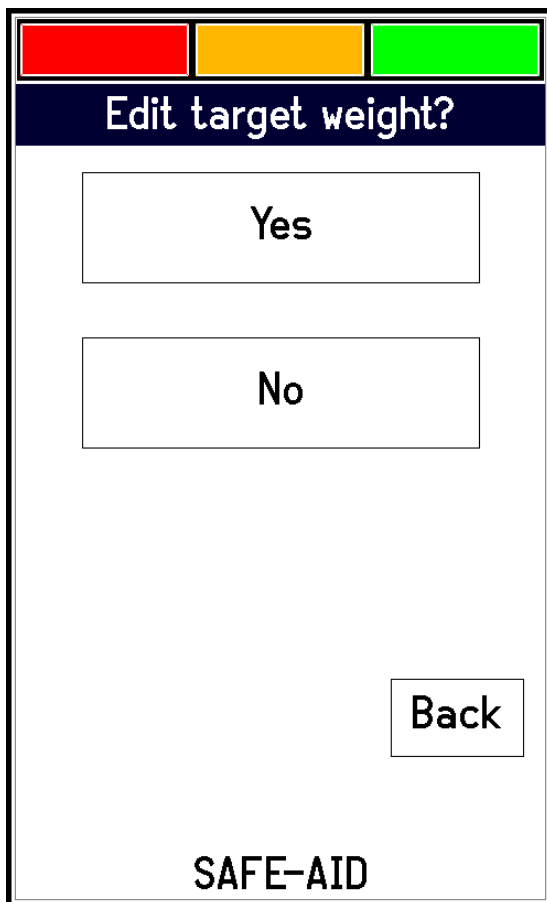

FIGURE 3
6. BUCKET WEIGHT - FIGURE 3 & 4
The **Bucket Weight** is the actual weight in the bucket excluding the weight of the bucket it is permanently displayed and is the actual load. If the Bucket Weight is showing a weight and there is no load in the bucket a zero can be done by pressing on the bucket weight. Figure 3 will be displayed. Press **Tare Bucket** to set the bucket weight to zero or if you want to reset the tare press **Reset Tare** and this will set system back to the original calibrated zero value. Once you have pressed tare the **Bucket Weight** will be replaced with **Tare Weight** (Figure 4).